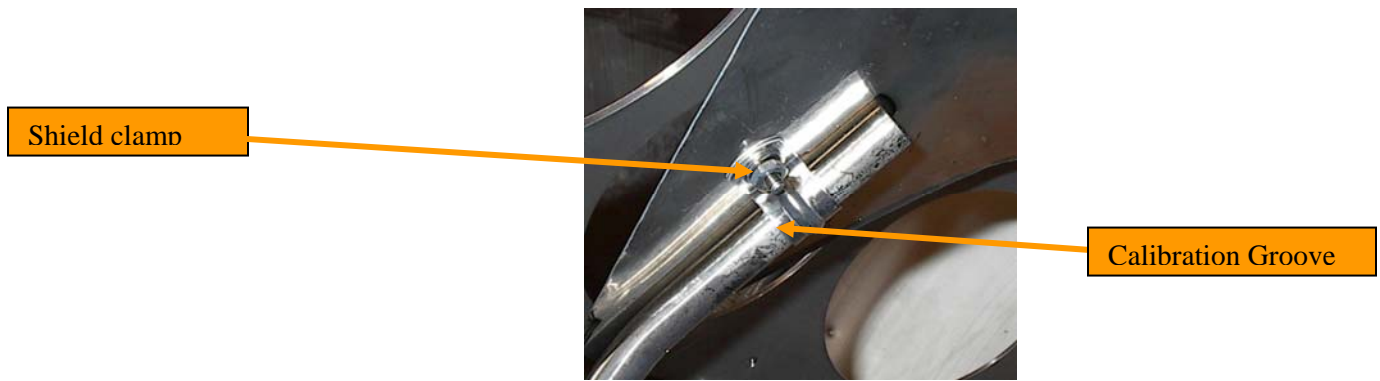

Figure 5
**Install Uniformity shield** (15a) as pictured below in figure 5. Ensure shield is aligned to premarked calibration groove and is parallel to the dome.